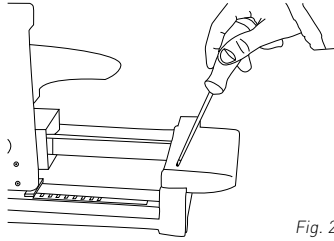

Fig. 2
1. Position the disc holder as shown in the figure and fasten it with the 2 M4 screws provided. **(Fig. 2)**